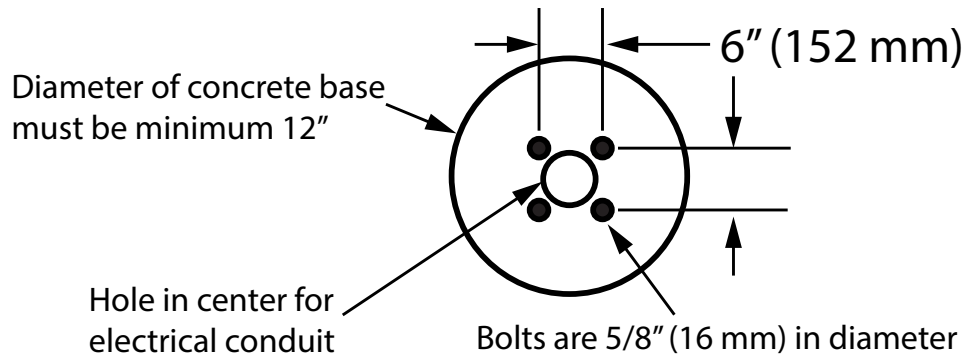

Figure 2. Anchor bolts
1. Anchor the 4 L-bolts or wedge anchors in a square, 6" (152 mm) apart as shown in figure 2.